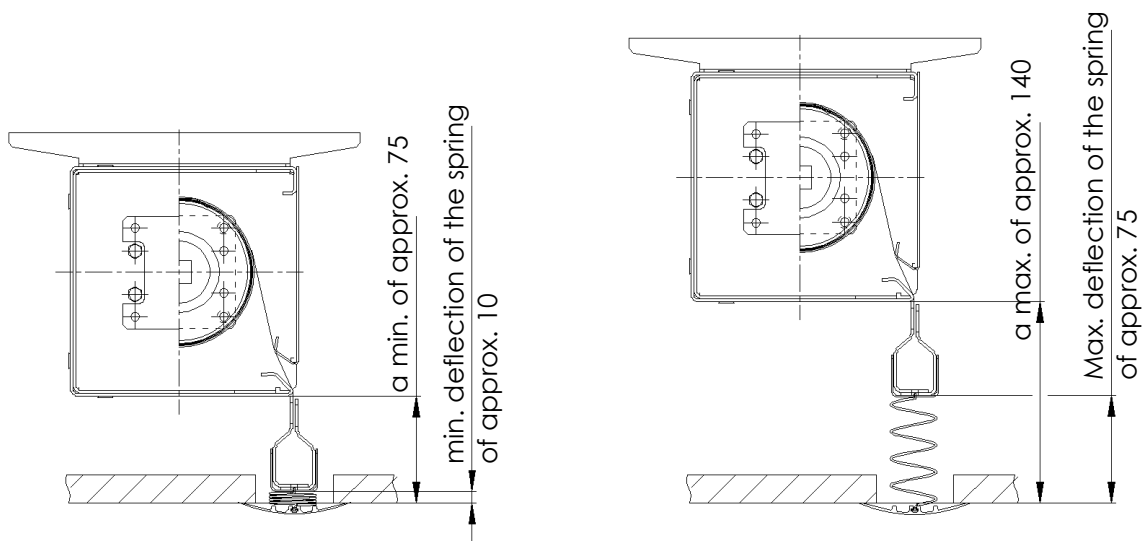

Fig. 6 Maximum and minimum distance between the casing and the ceiling, and maximum and minimum deflection of the spring of the masking element.
The smoke-tight fabric has linear bottom ballast, ensuring that it is properly unrolled or rolled up, and minimising its deflection or ascent due to the pressure of fire gases. Optionally, the linear bottom ballast may be equipped with a ballast masking element (Fig. 5, Fig. 6).
4. Limitations of using a masking element with holders (Fig. 5, Fig. 6).